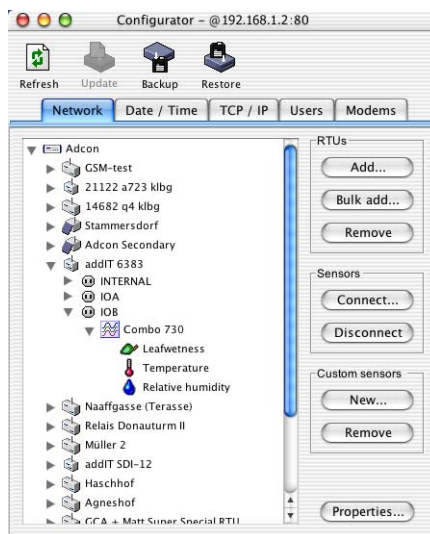

Figure 4. Configurator Startup
6. If the login was successful, the Configurator software starts up and by default shows you the actual configuration of your telemetry network: the root device, that is, the gateway itself (the base station), the RTUs (the devices), and their sensors (tags). The Configurator's graphical user interface (GUI) displays something similar to Figure 4.